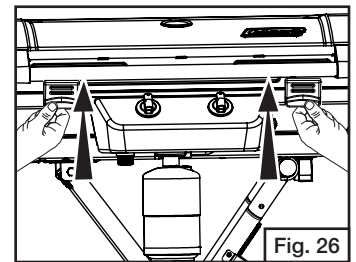

Fig. 26
- To open lid, release both cover latches and lift up. (Fig. 26)